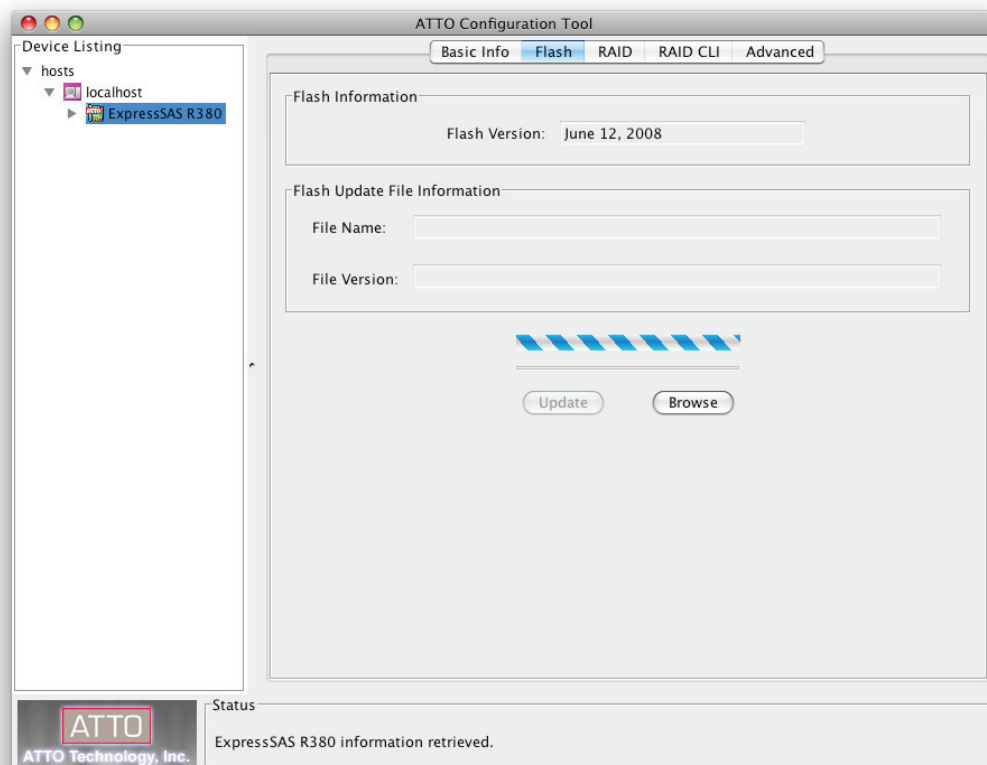

Figure 4
- The **Flash** tab provides information about the current flash version programmed on the highlighted controller. See **Figure 4** on page 4.